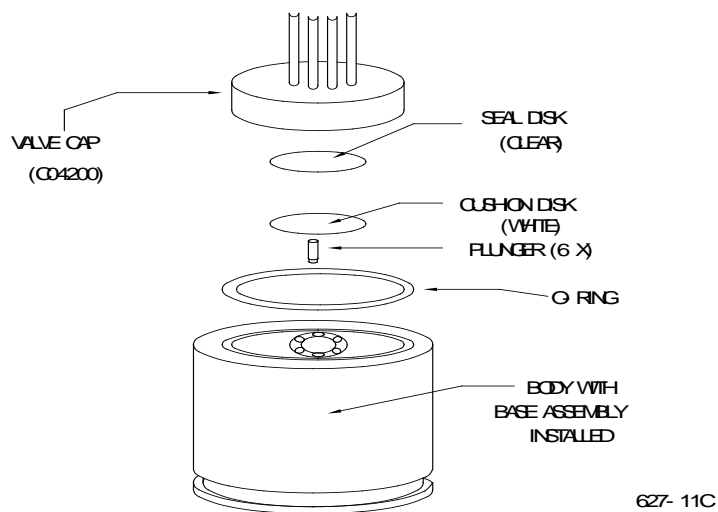

Figure 4-44: Model 11 Valve Major Components
Clear Teflon seal disc (4) MUST BE mounted on top of Dacron cushion disc (5). Refer to Figure 4-44. Align discs over plungers (7).
14.	Securely holding valve cap (3), blow out each port and/or tube with compressed air to remove all acetone and foreign matter.